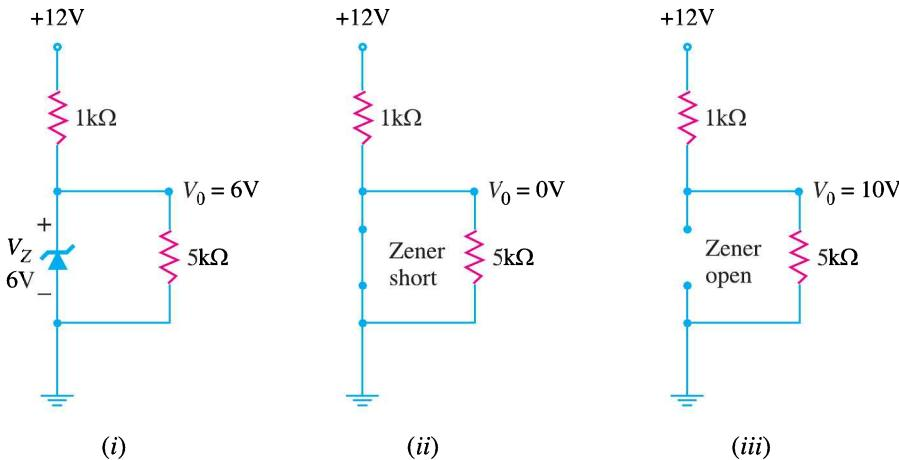

Fig. 6.70
**Example 6.34.** Fig. 6.70 shows the basic zener diode circuits. What will be the circuit behaviour if the zener is (i) working properly (ii) shorted (iii) open-circuited?
(i) If the zener diode is working properly, the voltage  $V_0$  across the load ( $= 5 \text{ k}\Omega$ ) will be nearly 6V [See Fig. 6.70 (i)].
(ii) If the zener diode is shorted [See Fig. 6.70 (ii)], you will measure  $V_0$  as 0V. The same problem could also be caused by a shorted load resistor ( $= 5 \text{ k}\Omega$ ) or an opened source resistor ( $= 1 \text{ k}\Omega$ ). The only way to tell which device has failed is to remove the resistors and check them with an ohmmeter. If the resistors are good, then zener diode is bad.